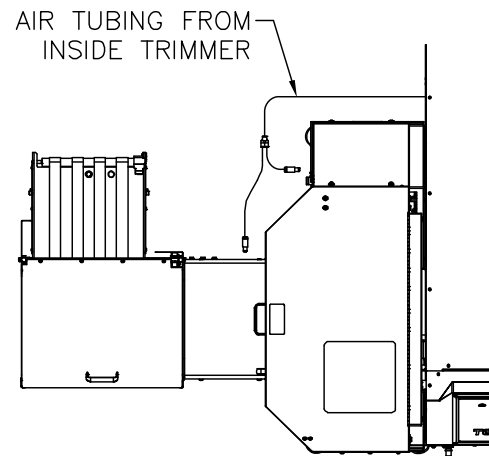

Figure 2-14. Air Tubing Connections
7. Connect the air tubing as shown in Figure 2-14.